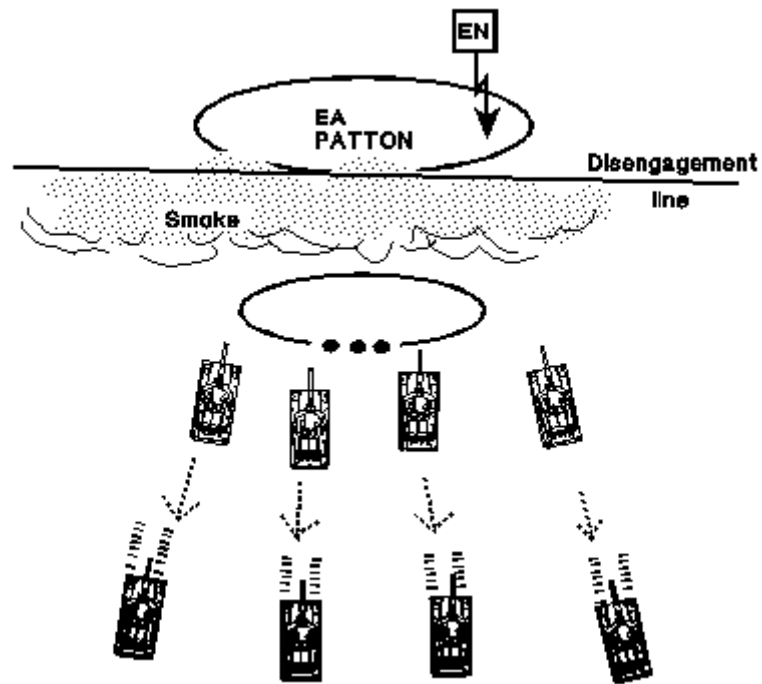

Figure D-6. Using screening smoke to conceal displacement.
- o conducts a bypass, breach, or assault mission. Figures D-6 through D-8, pages D-26 and D-27, illustrate uses of screening smoke.